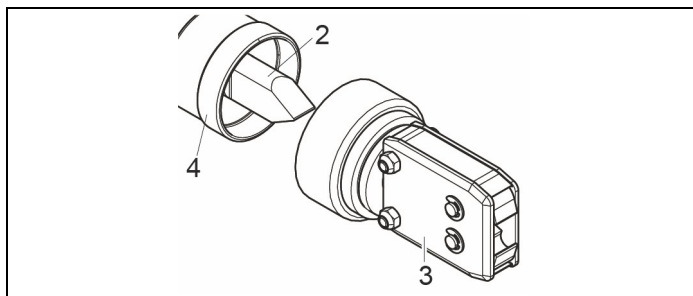
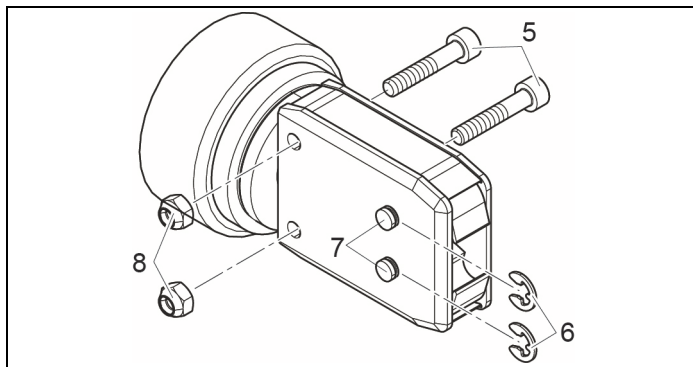
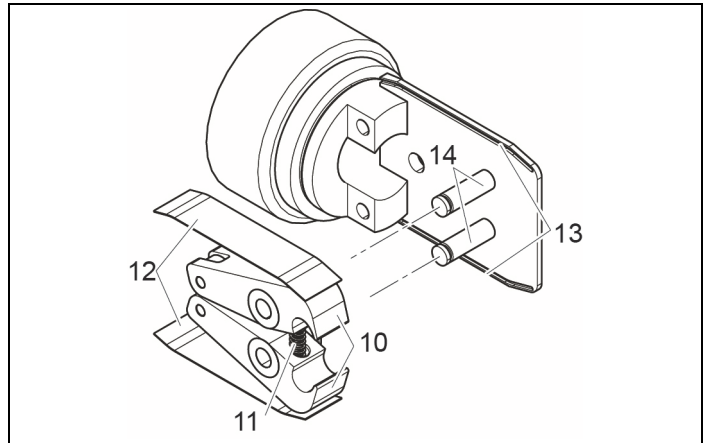

Fig. 25: Disconnecting the pincer head from the clamp pincer
Fig. 26: Dismantling the pincer head
Fig. 28: Fitting the pincer jaws
3. Disconnect pincer head (Fig. 25/3) from the clamp pincer (Fig. 25/4).
The plunger (Fig. 25/2) stays in the clamp pincer (Fig. 25/4).
4. Remove two lock washers (Fig. 26/6) on pincer head (Fig. 25/3).
Do not push back pin (Fig. 26/7)!
5. Unscrew two hexagon nuts (Fig. 26/8) from the hexagon bolts (Fig. 26/5).
7. Remove compression spring (Fig. 28/11), cover plate (Fig. 28/12) and pincer jaws (Fig. 28/10).
8. Grease and assemble replacement pincer jaws (Fig. 28/10) and compressions spring (Fig. 28/11) from the pincer jaw replacement kit and pin (Fig. 28/14) with special lubricant RENOLIT LX-EP 2 (RENOLIT Duraplex EP 2).
9. Reassemble in reverse order using new lock washers (Fig. 26/6).
10. Check mobility of pincer jaws (Fig. 28/10).
The plunger (Fig. 25/2) must lie between the two pincer jaws (Fig. 28/10).